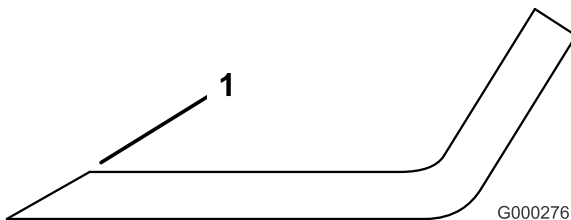

Figure 100
1. Use a file to sharpen the cutting edge at both ends of the blade (Figure 100). Maintain the original angle. The blade retains its balance if the same amount of material is removed from both cutting edges.